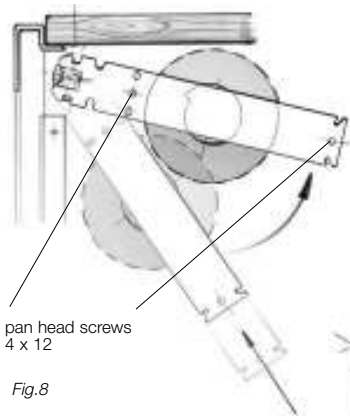

Fig. 8
- Place the shutter unit onto the positioning dowels/screws with the guide roller at the top and secure it in the pre-drilled fixing holes on both sides using a countersunk screw for each side (3x13'), but do not screw it down (Fig. 8)
- Secure the end brackets with two screws. (Fig. 8) It is important that the brackets are always pushed on fully against the positioning dowels/screws.